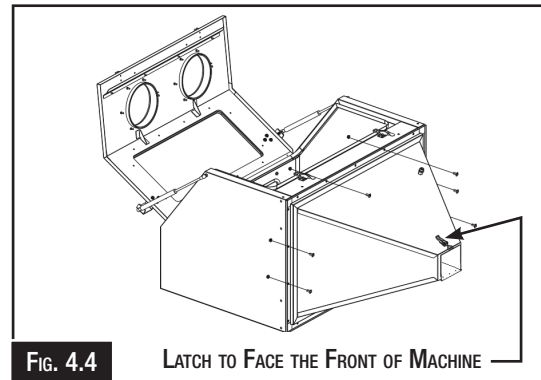

FIG. 4.4
3. Secure the hopper to the bottom of the cabinet using the screws and nuts provided, ensuring that the hopper door latch faces the front of the machine. (Fig. 4.4)